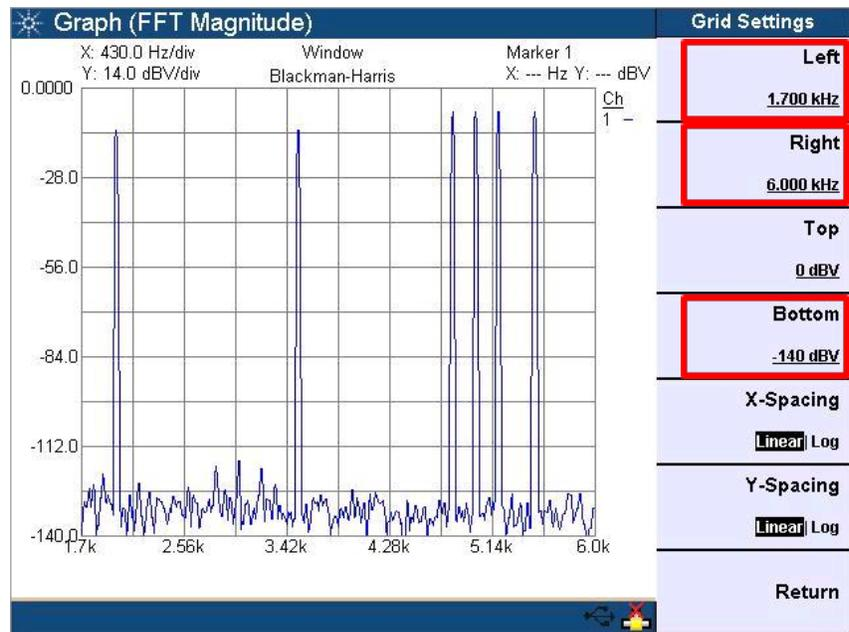

Figure 5. Spectrum of a custom multitone
8. Press **OUTPUT On/Off**  to enable the generator output, and press **CHANNEL Run/Stop**  to start the analyzer. Now the spectrum of the custom multitone will look like Figure 5.